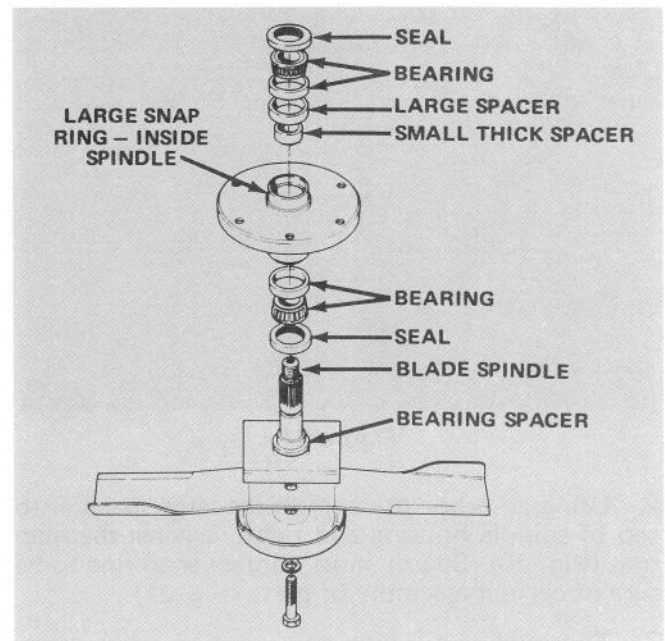
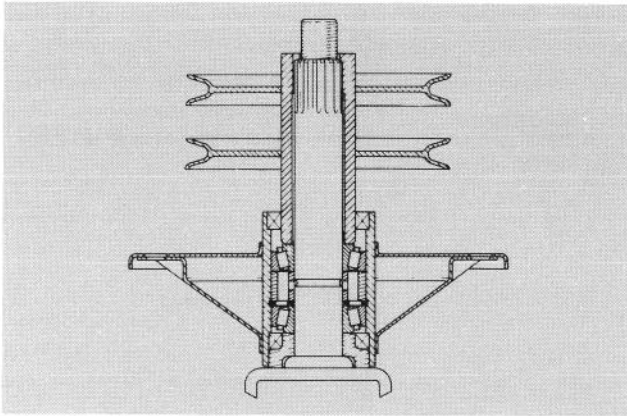
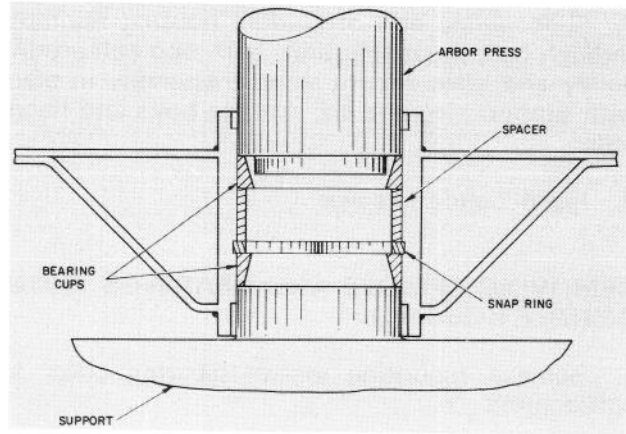

Figure 20
Figure 21
Figure 22
5. If spindle shaft will be replaced, remove blade-bolt, lockwasher, anti-scalp cup, and blade from spindle shaft (Fig. 20). Otherwise, the blade and its other associated parts may be left on the spindle shaft.
6. Press spindle shaft out of spindle housing (Fig. 20), using an arbor press. Bearing spacer (Fig. 20) remains on spindle shaft as shaft is being removed.
7. The seals (Fig. 20) will be removed next; however, notice the lip of the seal. The lip of the upper seal faces inward, and the lip of the lower seal faces outward. Therefore, new seals must always be installed with the lip facing in the proper direction. Now remove the seals from spindle housing.
8. Allow bearings and small thick spacer to fall out of spindle housing (Fig. 21).
9. Using a punch and hammer, drive both bearing cups (Fig. 20) out of spindle housing. Also drive large spacer (Fig. 20) out of housing.
1. Install large snap ring into groove in bore of spindle housing (Fig. 21). Assure snap ring is seated in the groove.
2. Using an arbor press, push the large spacer into top of spindle housing and tightly against the snap ring (Fig. 20). Spacer must contact snap ring to be sure of correct assembly of parts (Fig. 21).
3. Thoroughly oil cups and using an arbor press, push bearing cups — smallest ID first — into top and bottom of spindle housing (Fig. 20). Top bearing cup must contact spacer that was installed in step 2, and bottom bearing cup must contact snap ring to be sure of correct assembly of parts (Fig. 21). Insure assembly is correct by supporting the first cup and pressing the second against it (Fig. 22).
4. Apply a film of grease on lip of both seals; then install bearing and seal into bottom of spindle housing (Fig. 21). Remember though, the bottom seal must have the lip facing outward (Fig. 20) not toward inside of spindle housing.
5. Slide small, thick spacer into spindle housing (Fig. 20). Then, install bearing and seal into top of spindle housing. Lip of the seal must face outward.
7. Slide bearing spacer onto spindle shaft. Carefully slide spindle shaft through spindle housing. Bottom seal and bearing spacer fit together when spindle is installed (Fig. 21).